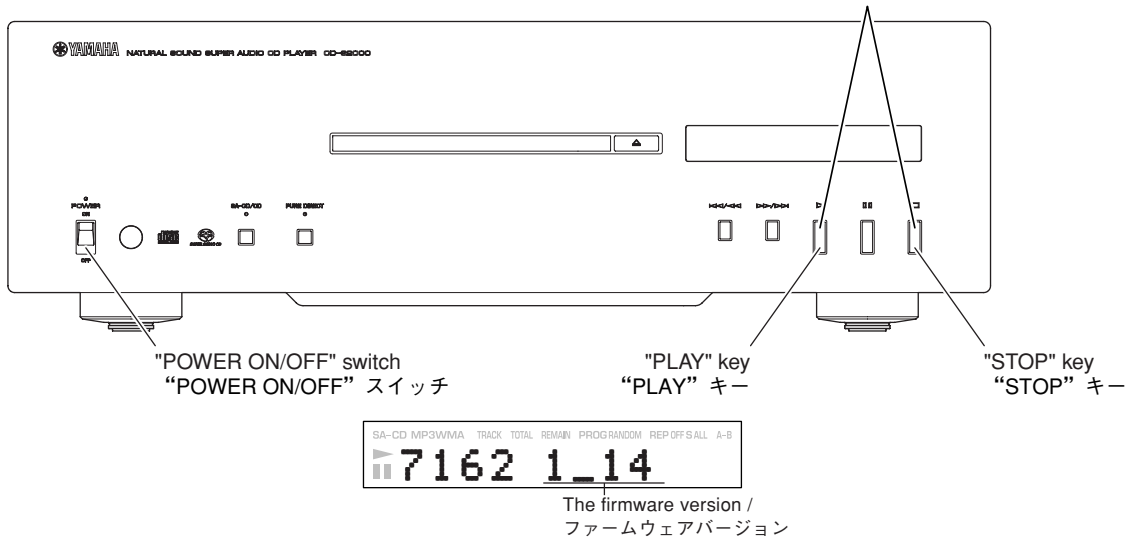

Fig. 8
2. While pressing the "PLAY" and "STOP" keys of this unit, set the "POWER ON/OFF" switch to the ON position. Then the Test mode is activated. (Fig. 8)
2. 本機の"PLAY"キーと"STOP"キーを押しながら、“POWER ON/OFF”スイッチをONにします。(Fig. 8)